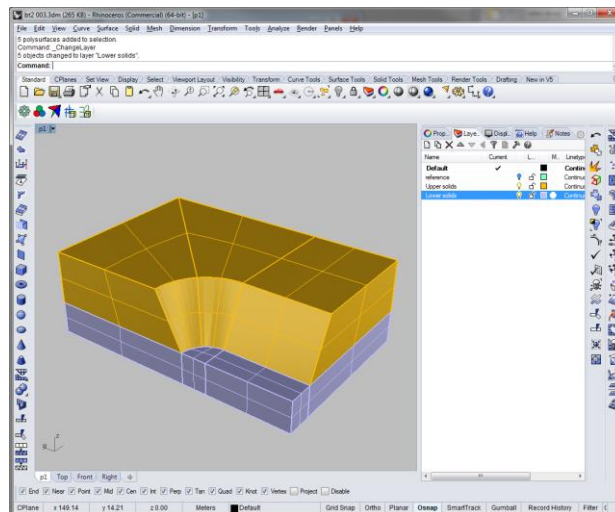

Figure 84: The model after the Upper solids and Lower solids layer have been specified.
5. If the Layer pane is **not open**, click on the **Edit layers** icon to **open** it. Click on the black square next to the **Upper solids** layer and when the **color chooser** pops up, select **Gold**. Similarly, set the color of the **Lower solids** layer to **Lavender** (Figure 84).